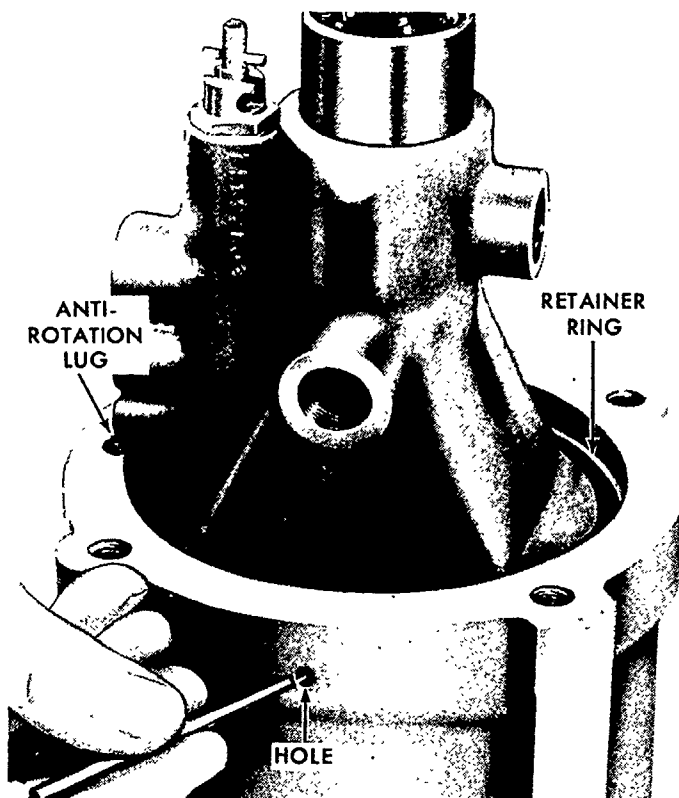
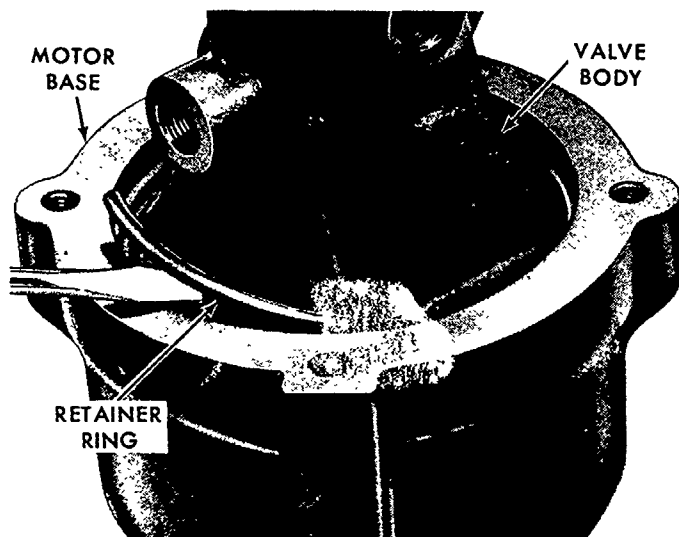

Figure 88
Figure 89
1. Insert a punch into the hole in the motor base as shown in Figure 88. Tap the punch until the retainer ring is loosened.
2. Pry the retainer ring, Figure 89, upward and out of the groove with a screwdriver. Then rotate the ring out from under the anti-rotation lug, Figure 88. Remove the ring.
16. Place the end of the retainer ring into the space under the anti-rotation lug, Figure 88, then press the valve
17. Rotate the ring, Figure 88, until the gap in the ring is within 1/8 inch (3.17 mm) of the hole in the cover, then press the ring into the groove of the base until it is firmly seated.